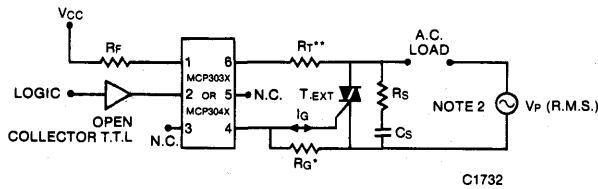

Figure 8 For Load Current $I_L > 50\text{mA RMS}$ – Interface Via External Triac (T_{EXT})
Typical Snubber Values — Fig. 8. Circuit Driving Inductive Load:
1. MCP304X and T_{EXT} $V_{DRM} \geq 400\text{V}$ recommended for 120 V Inductive Loads - Fig. 8